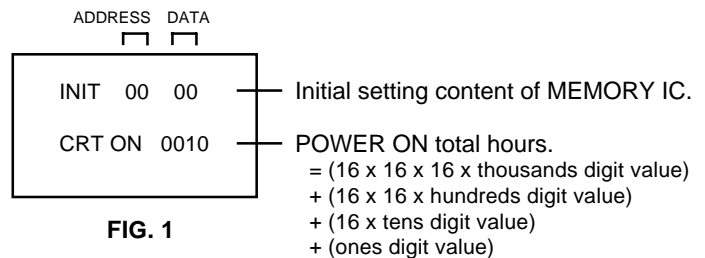

FIG. 1
2. While holding down VOLUME button on front cabinet, press key 6 on remote control for more than 1 second. ADDRESS and DATA should appear as FIG 1.